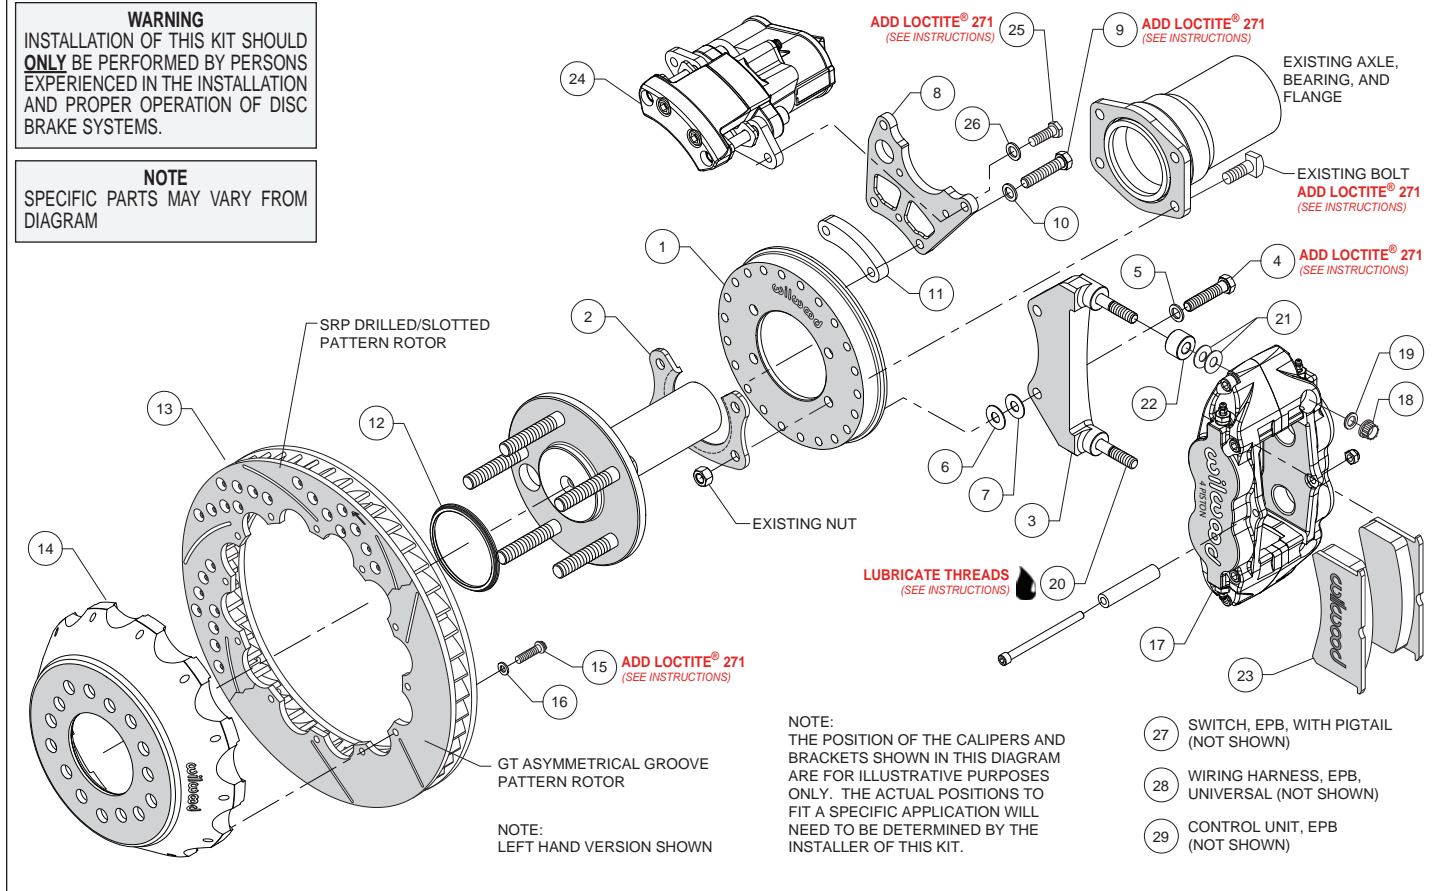
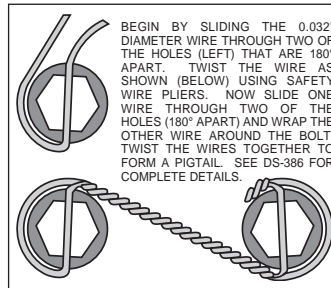

Figure 1. Typical Installation Configuration
Figure 5. Safety Wire Diagram
(numbers in parenthesis refer to the parts list, and Figure 1 on the preceding pages):
- Orient the backing plate (1) as shown in Figure 1 and Photo 1, and slide it onto the axle housing flange. Ensure the backing plate fits flush against the axle housing flange. Reinstall the axle into the axle housing.
- Install the bearing retainer (2) with the opening pointing upward and the lip facing inward (toward the bearing), as shown in Figures 1 and 4, and Photo 2. Secure retainer and backing plate to the axle housing flange using the Original Equipment Manufacturer (OEM) bolts and nuts, Figure 1 and Photo 3. Apply red *Loctite*® 271 to the OEM bolt threads and torque to OEM specifications.
•Start by determining the best location for the service caliper (17). This caliper is usually mounted in the 3:00 or 9:00 o'clock position, but may be rotated up or down approximately 45 degrees and still allow for proper bleeding, Photo 4. Orient the service caliper bracket (3) as shown in Figure 1 and Photo 5, and install to the backing plate (1) in the desired location using bolts (4) and washers (5). Temporarily tighten bolts. Next, mount the service caliper onto the bracket. Lubricate the caliper mounting studs (20) with lightweight oil. Mount the service caliper using lock nuts (18) and washers (19), Figure 1. Temporarily tighten the lock nuts. Check that the caliper (including inlet fitting and hose) has sufficient clearance to all surrounding components through the full suspension travel. Relocate the caliper/bracket on the backing plate as needed to ensure proper clearance is achieved.
•Determine the best location for the EPB caliper (24). **NOTE:** *The EPB caliper motor extends farther inboard than the service caliper and therefore needs additional consideration when determining a mounting location with sufficient clearance.* In the example application shown in Photo 6, the EPB caliper has sufficient inboard clearance to the leaf spring. However, if the EPB caliper were mounted closer to the 12:00 o'clock position, the inner body of the vehicle would hit the caliper during full compression of the suspension.
- Orient the EPB caliper bracket (8) as shown in Figure 1 and Photo 7, and install to the backing plate (1) in the desired location using bolts (9), washers (10), and spacer (11). Temporarily tighten bolts. **NOTE:** The EPB bracket is reversible. In one direction the bracket will position the EPB caliper closer to the service caliper, and vice versa if reversing the bracket. Next, mount the EPB caliper (24) to the bracket using bolts (25) and washers (26). Temporarily tighten bolts. **NOTE:** EPB calipers are Left and Right handed, however they can be used on either side of the vehicle to best suit your specific application. Check that the EPB caliper (including wiring harness connector) has sufficient clearance to all surrounding components through the full suspension travel. Relocate the EPB caliper/bracket on the backing plate as needed to ensure proper clearance is achieved.
- Once the caliper positions have been determined, remove both the service (17) and EPB (24) calipers, leaving both brackets in place on the backing plate. For the EPB bracket, remove the bolts one at a time, apply red Loctite® 271 to the threads, and torque to 35 ft-lb. The service caliper bracket will be final installed after shimming is determined.
- Orient the rotor (13) and the hat (14) as shown in Figure 1 and Photo 8. Attach rotor to hat using bolts (15) and washers (16). Using an alternating sequence, apply red Loctite® 271 to the threads, and torque to 155 **in-lbs**. For an added measure of security, the bolts may be safety wired using standard 0.032 inch diameter stainless steel safety wire as shown in Figure 5. Please refer to Wilwood's data sheet DS-386 (available at [www.wilwood.com/Pdf/DataSheets/ds386.pdf](http://www.wilwood.com/Pdf/DataSheets/ds386.pdf)) for complete safety wire installation instructions.
- Initially place two .035" thick shims (21) and one spacer (22) on each stud of the service caliper bracket (3) as shown in Figure 1 and Photo 10. Mount the caliper onto the bracket using lock nuts (18) and washers (19), Figure 1. Temporarily tighten the lock nuts and view the rotor through the top opening of the caliper. The rotor should be centered in the caliper, Photo 11. If not, adjust by adding or subtracting shims (6 and/or 7) between the service caliper bracket (3) and the backing plate (1). Always use the same amount of shims on each of the two mounting bolts. Once the caliper alignment is correct, remove the bracket mounting bolts (4) one at a time, apply red Loctite® 271 to the threads, and torque bolts to 35 ft-lb.
- Mount the EPB caliper (24) onto the caliper mounting bracket (8) using bolts (25) and washers (26), Figure 1. Apply red *Loctite*® 271 to bolt threads, and torque to 30 ft-lb.
• **NOTE:** The service caliper (17) in this brake kit utilizes a 1/8-27 NPT pipe thread inlet. OEM rubber brake hoses generally cannot be adapted to Wilwood calipers. The preferred method is to use steel adapter fittings at the caliper, either straight, 45 or 90 degree and enough steel braided line to allow for full suspension travel. **Carefully route hoses to prevent contact with moving suspension, brake or wheel components.** **NOTE:** Wilwood hose kits are designed for use in many different vehicle applications and it is the installer's responsibility to properly route and ensure adequate clearance and retention for brake hose components. Wilwood offers universal brake flex line hose kits, domestic (3/8-24 IF) chassis fittings, order: